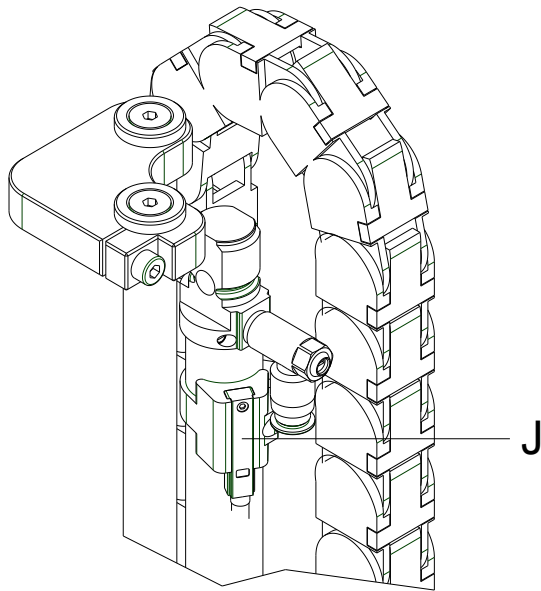

Figure 26
2. Loosen the screws (C).
3. Remove the sensor holder (D) with the sensor (A).
4. Remove the screws (B).
5. Remove the screws (G) to loosen the energy track (F) on one side.
6. Detach the T-shaped parts (I) hooked together from the U-shaped parts (H) of the energy track (see Figure 26).
7. Pull out the sensor (A) from the energy track (F).
8. Remove the plug (L) of the sensor (A) from PCB (K).
9. Connect the new sensor (A) with the PCB (K).
10. Insert the new sensor (A) in the energy track (F).
11. Close again the energy track (F). To do so, press the T-shaped parts (I) into the U-shaped parts (H).
12. Mount again the energy track (F) and tighten the screws (G).
13. Mount the sensor (A) with screws (B) at the sensor holder (F).
14. Install the sensor holder (D) with the screws (C) at the guiding plate (E).